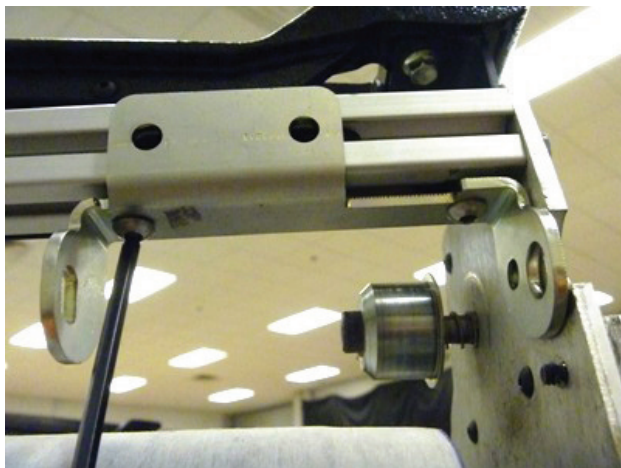

Figure 12
12. With the new bracket flush against the side frame, install the two NEW, replacement, 1/4-20 x 3/8" button head cap screws into the original T-nuts from the old bracket. Do NOT tighten completely at this point. Notice that the side of the bracket with the round hole and the second hole for the side mounting bolt, should be against the frame. Refer to *Figure 12*.